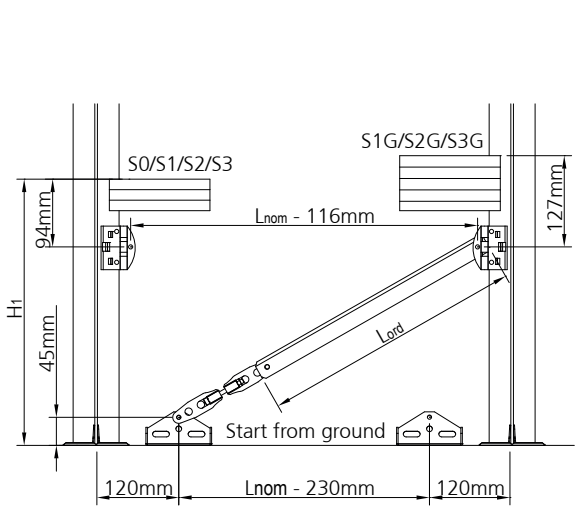

Fig. 8
- start from floor (Fig. 8 - Tab. 4);
Order length calculation formula - S0/S1/S2/S3 beams (Fig. 8): $L_{ord} = \sqrt{(H_1 - 139mm)^2 + (L_{nom} - 173)^2} - 127mm$
Order length calculation formula - SG beams (Fig. 8): $L_{ord} = \sqrt{(H_1 - 172mm)^2 + (L_{nom} - 173)^2} - 127mm$